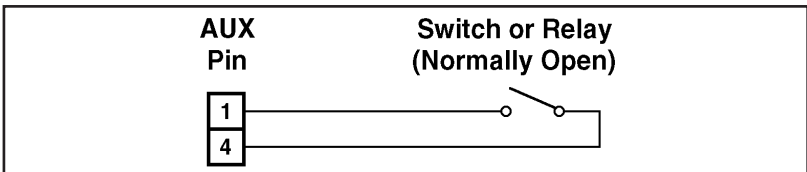

Figure 6.4: AUX Port Connection
2. **Connect Line from Switch:** Connect the Switch to the AUX Port as shown in Figure 6.4.